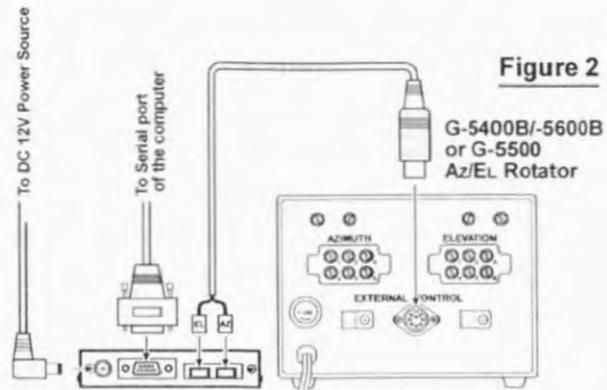

Figure 2
- Connect the supplied Control cable (“Dual 5-pin” ↔ “DIN”) between the rotator’s controller and **GS-232B**. Be careful to match the “AZ” and “EL” labels on the cable with the same labels on the rear panel of the **GS-232B** (Figure 2).